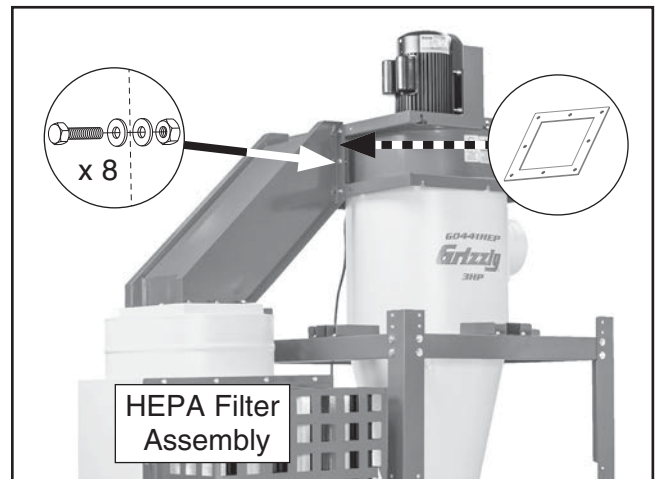

Figure 17. HEPA filter assembly attached to blower housing.
19. Attach filter adapter rubber gasket to blower housing (see **Figure 17**), then secure HEPA filter assembly using (8) $\frac{3}{8}$ "-16 x 1" hex bolts, (16) $\frac{3}{8}$ " flat washers, and (8) $\frac{3}{8}$ "-16 hex nuts.